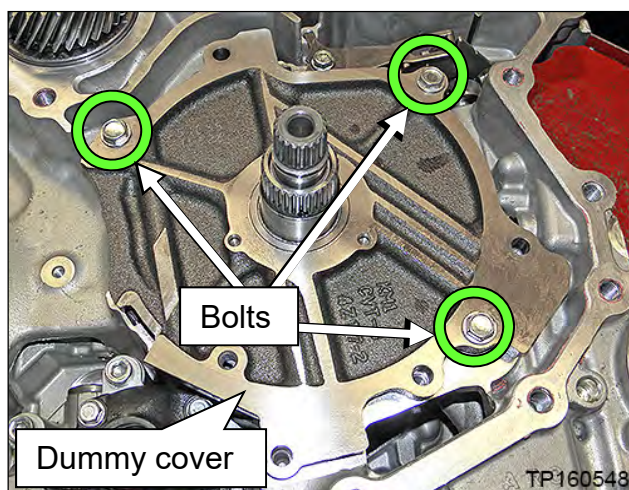

Figure 64
46. Temporarily install the dummy cover with three (3) bolts, finger tight (Figure 64).